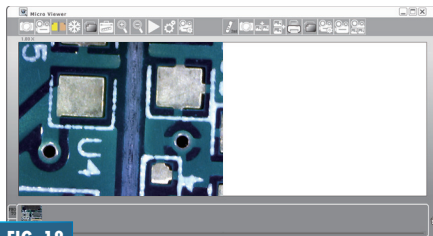

FIG. 18
2. Click the Compare button,  and the compare window will appear on the screen. The live image shows in the left zone (Fig. 18).